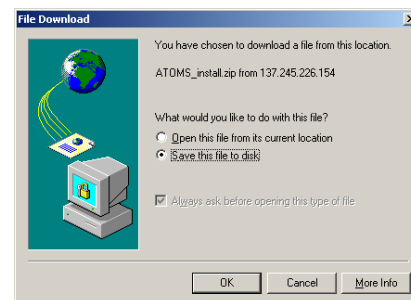

Figure 3-2 Save Download to Disk
- 4) When the **File Download** dialogue box appears, be sure the “Save this file to disk” option is selected (see Figure 3-2) and click **OK**.
- 5) When the **File Download** dialogue box appears, be sure the “Save this file to disk” option is selected (similar to Figure 3-2) and click **OK**.